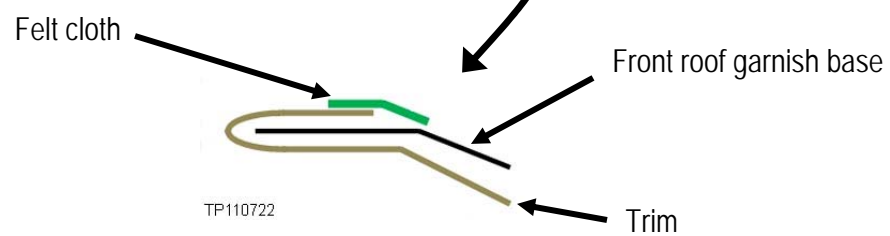

Figure 10f
- Figure 10f shows side view (cutaway) of felt cloth position.